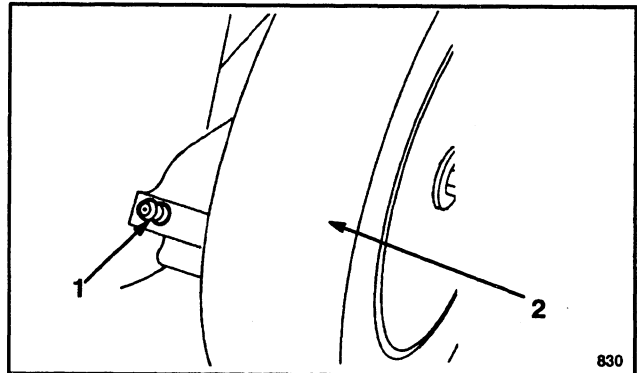

Figure 22
2. Move rear wheel height-of-cut levers to "2" setting. Wipe grease fittings with clean rag (Fig. 22). Install grease gun onto fitting and gently apply two or three pumps of #2 Multi-Purpose Lithium Base Grease.